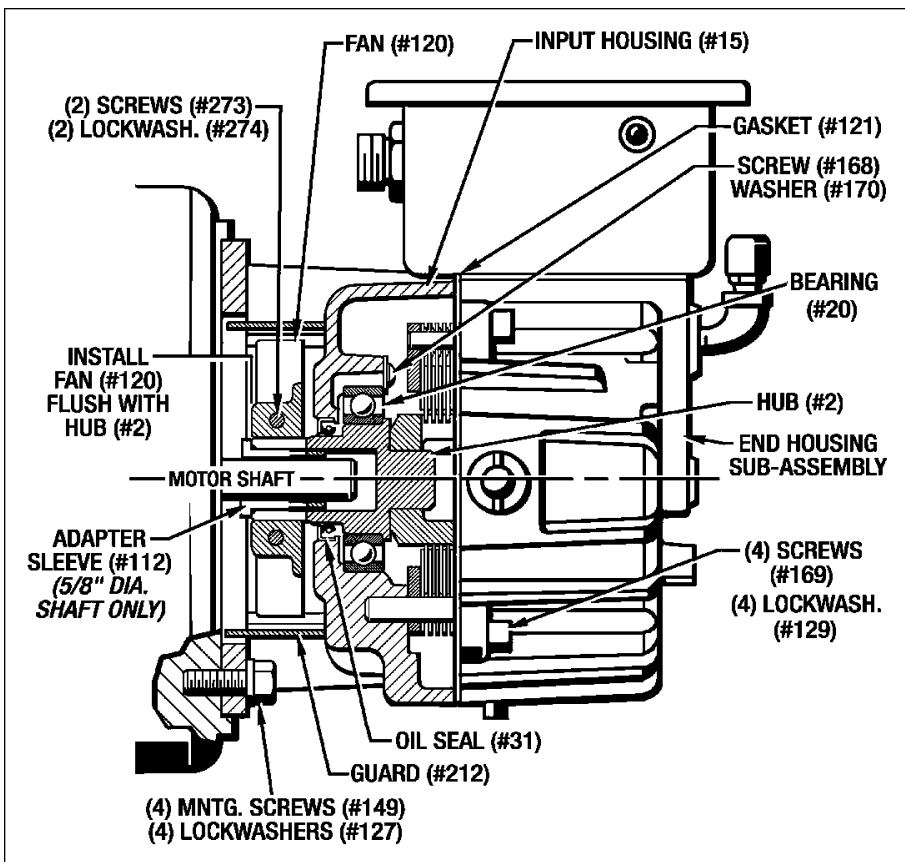

Figure 7.8 - Installing MSB2 Brake Back On The Motor
(See Figures 7.8, 8.1 and 8.2)
- Position the Fan (#120) on the Hub (#2) up against the shoulder as shown in Figure 7.8 and **just finger tighten** the (2) Screws (#273).